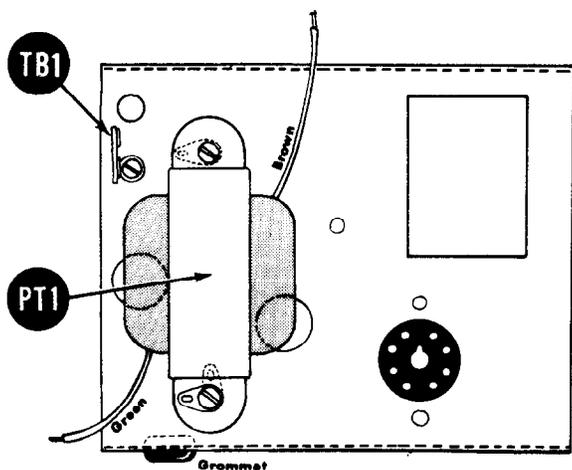

Fig. 2
- () Fig. 2. Mount the power transformer PT1 as shown. Use two 6-32 X 1/4" screws, two 6-32 hex nuts and three #6 solder lugs. Position the transformer and solder lugs as shown. Pass all leads through chassis holes except those shown above chassis.
- () Fig. 2. Mount the 1 post right terminal board TB1 with one 6-32 X 1/4" screw, one 6-32 hex nut, and one #6 lockwasher.
- () Fig. 2. Insert 3/8" rubber grommet for line cord in chassis hole located in the figure.